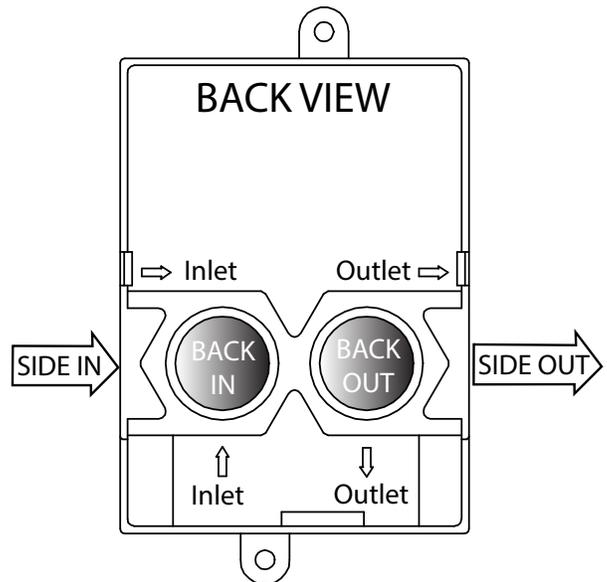
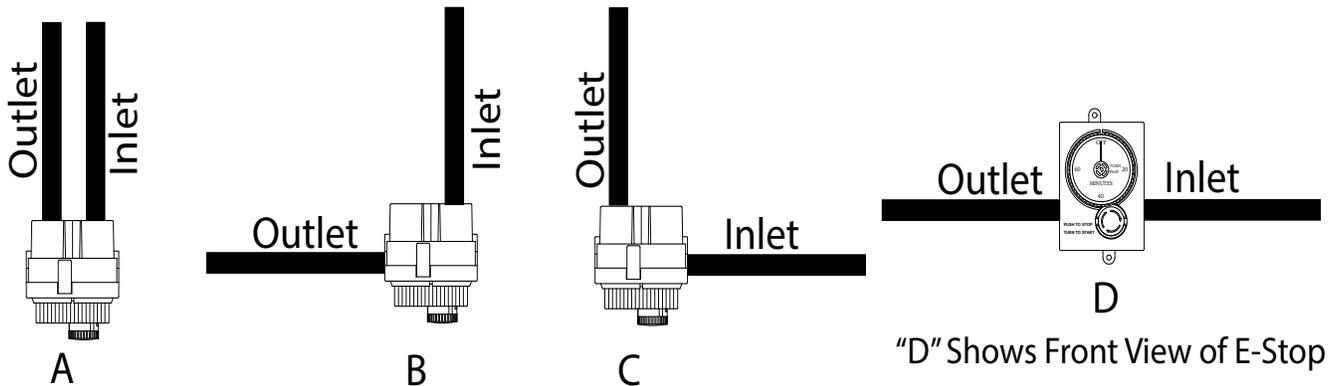

Fig. 2 Inlet and outlet connections.
Fig. 3 Plumbing options
The recommended installation position is up-right as shown in Fig 2, view "D". It has two (2) inlet and two (2) outlet gas connections. The diagrams below provide possible ways to plumb the E-Stop (See Fig. 3). Two (2) ½" NPT plugs are provided with the E-Stop. Plug the inlet and outlet connections not being used for the application. Connect gas supply to the inlet with the → arrow pointing into the valve. Connect outlet side to the gas appliance (See Figs. 2 & 3 for details).